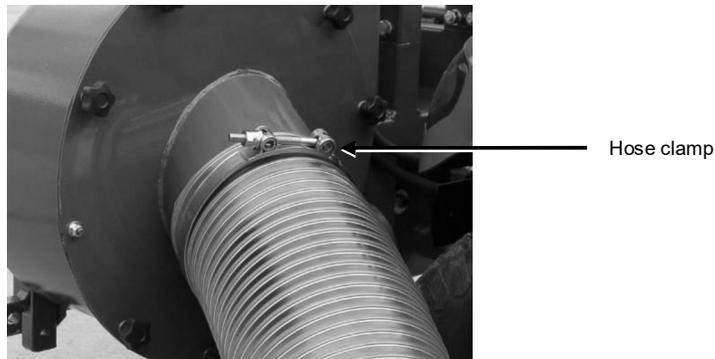

Fig. 27: Suction hose on the turbine cover
9. Slide the suction hose onto the opening on the turbine cover and secure the connection with the hose clamp (see Fig. 27).